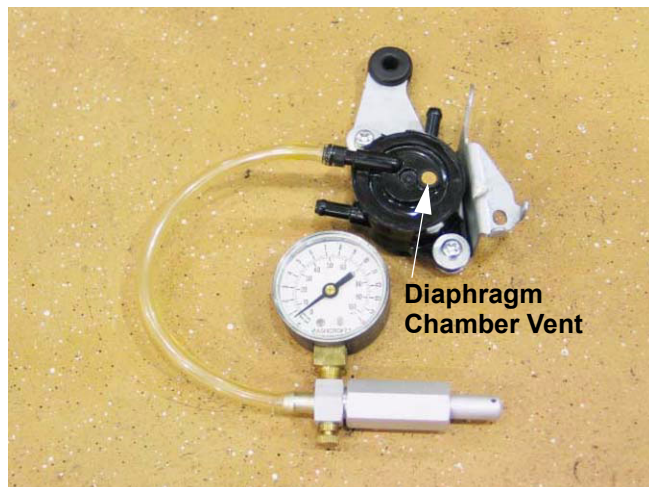

Figure 15.11
15.11. The fuel pump can be tested on the bench using a hand operated vacuum pump to confirm the initial tests. See Figure 15.11.